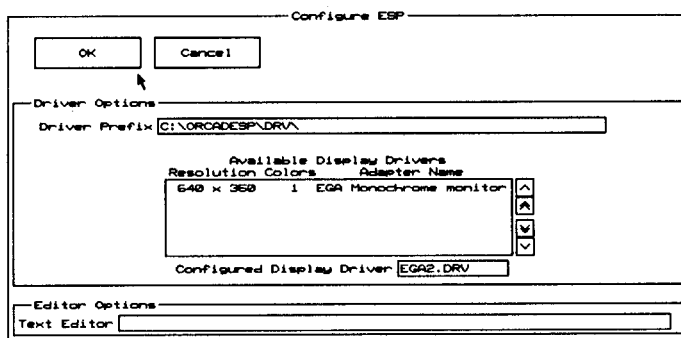

Figure 2-3. Top portion of the *Configure ESP* screen.
2. Select **Configure ESP**. The screen in figure 2-3 displays.